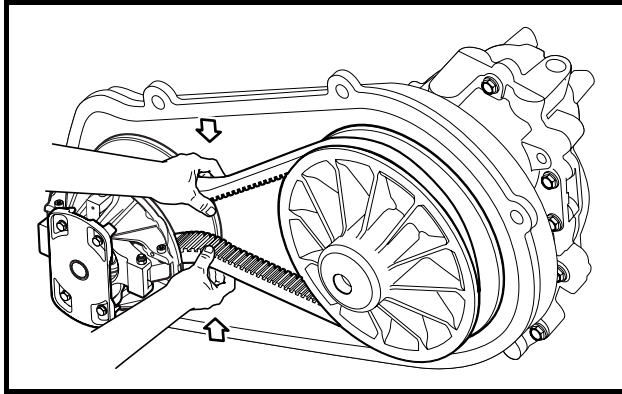

Figure 13a-33 Drive Belt Removal
5. Grasp the belt midway between the drive and driven clutches, and squeeze the belt together as tightly as possible (**Figure 13a-33, Page 13a-33**).